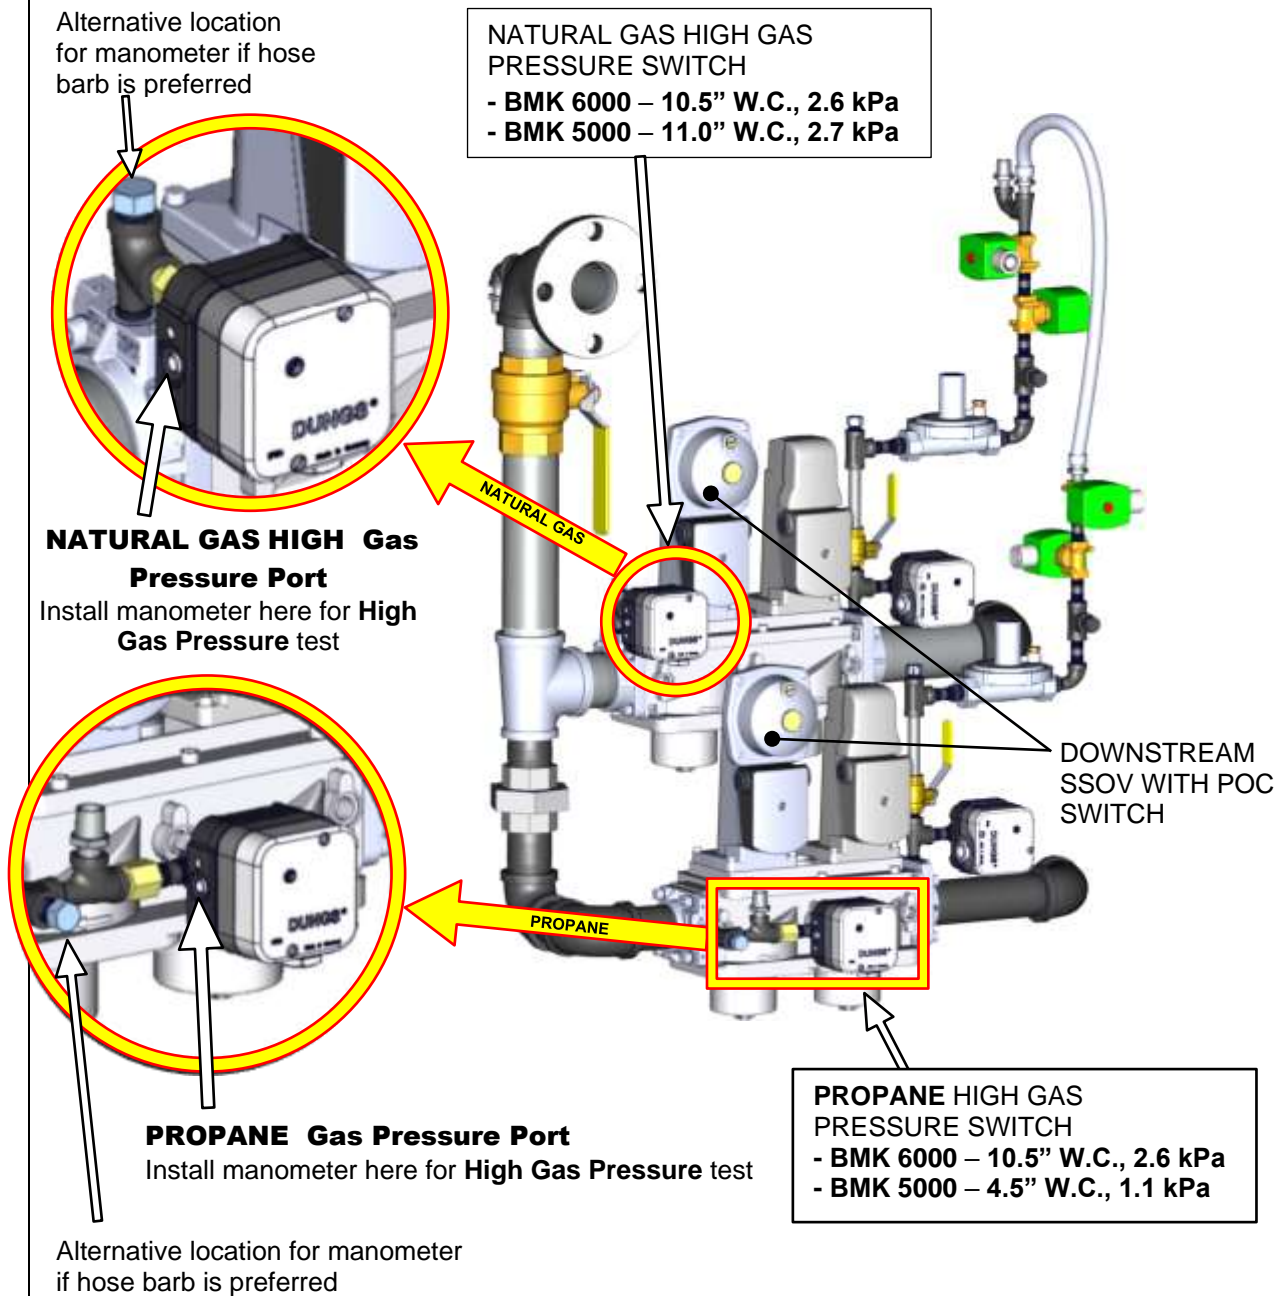

Figure 5-3: High Gas Pressure Switch Locations & Test Ports
2. Locate the port on the top of the **NATURAL GAS High Gas Pressure Switch** (see Figure 5-3) and loosen the screw inside a few turns to open it. Do not remove this screw completely. Alternatively, you can remove the 1/4 inch plug shown in the top half of Figure 5-3 and install a hose barb fitting in that location.
14. For Dual Fuel gas trains, repeat this procedure on the PROPANE gas train, starting with opening the port on the side of the PROPANE High Gas Pressure Switch, as shown in Figure 5-3.